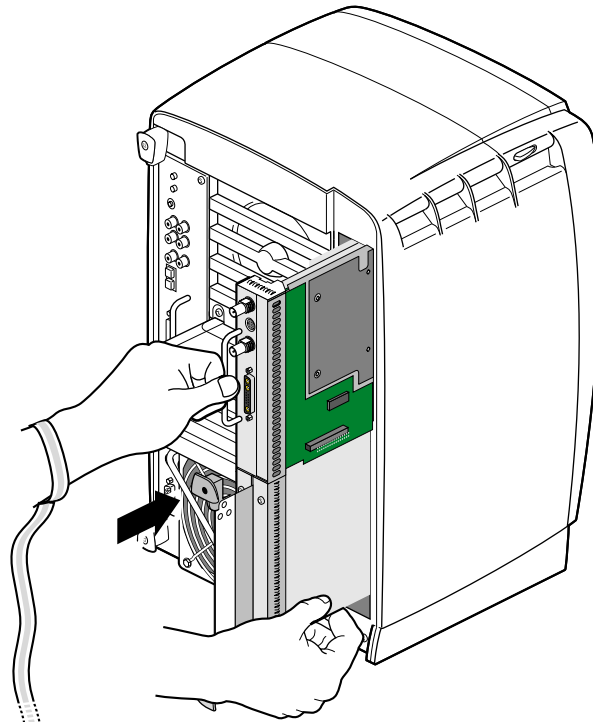

Figure 5-6 Inserting the XIO Tri-Module
2. Slide the XIO Tri-Module into the guides on the top and bottom of the workstation, as shown in Figure 5-6. Be sure the module is oriented correctly, as shown. There may or may not be other XIO boards in slots C and D (the bottom two slots) but the graphics board set should always be in slots A and B (the top two slots).
Before you insert the XIO Tri-Module, make sure the plastic knob assembly protrudes in a locked position from the I/O panel, as shown in Figure 5-6.